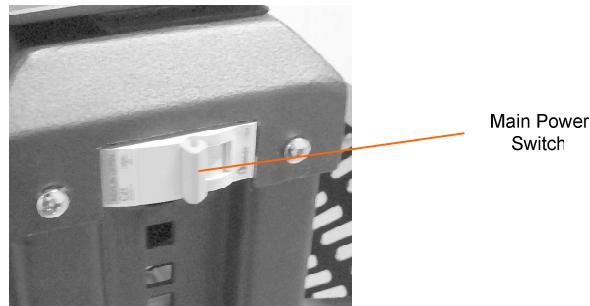

Figure 1.19: Main power switch.
- Move switch on the right side of the rack to position «1». (Figure 1.19)
- Move switch on the rack to position «0» for board power disconnection. (Figure 1.19)